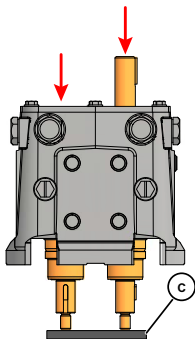

Figure 44 - Press Shafts from Gear Case
5. Place the gear case on an arbor press with the liquid end facing down. Protect the shaft ends with a wood or plastic block (Figure 44, item C) and press the shafts out of the gear case.